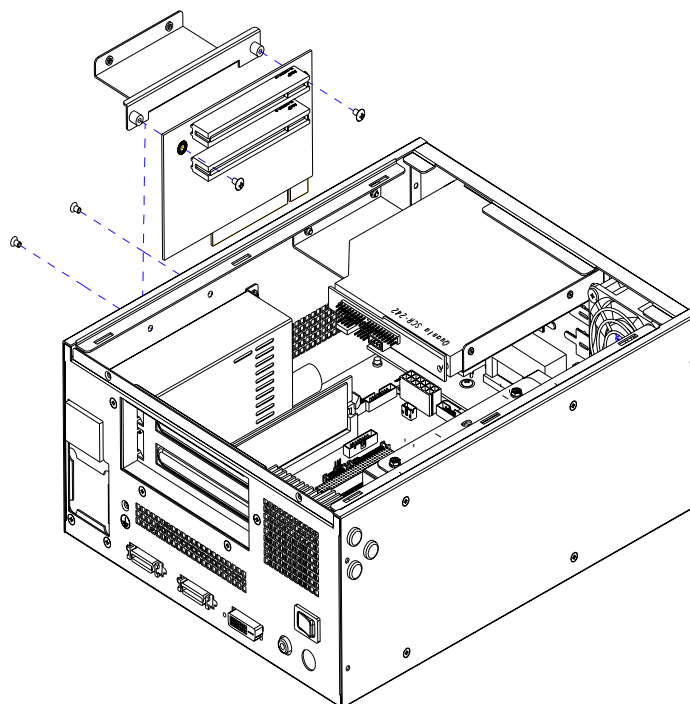

Figure 2.4 Installing a riser card
2. Fasten the riser card onto the support with the 2 screws provided. Then insert the riser card into the PCI slot of the SBC. (Figure 2.4)